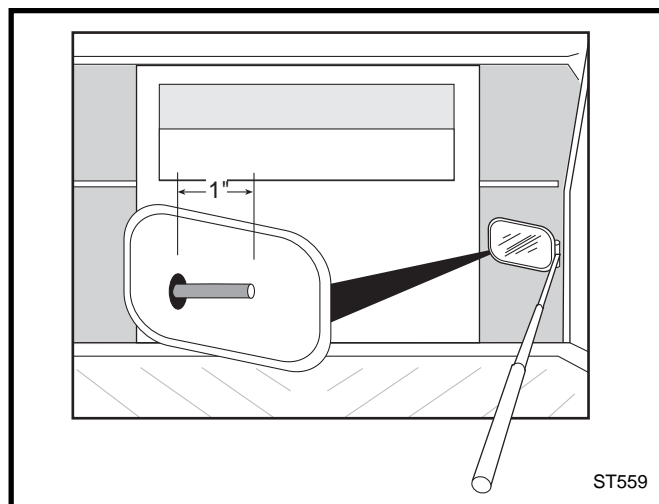

Fig. 40 Use an inspection mirror to check the reflected view of the secondary probe.
5. Inspect the element for damage or degradation. Although small hairline cracks will not affect performance, the element should be essentially intact. If the element is broken in pieces or has sections missing, it should be replaced. Call your local Vermont Castings/Majestic Products Company Authorized Dealer for a replacement element. While the catalytic element is removed, check the condition of the secondary air probe. Use an inspection mirror to locate the probe within the combustion chamber. (Fig. 40) The probe should extend 1" to 1½" into the chamber and show no signs of excessive deterioration, such as warping, corrosion, or short length. A damaged secondary air probe can affect catalytic performance. If the probe needs replacement, contact your local dealer.